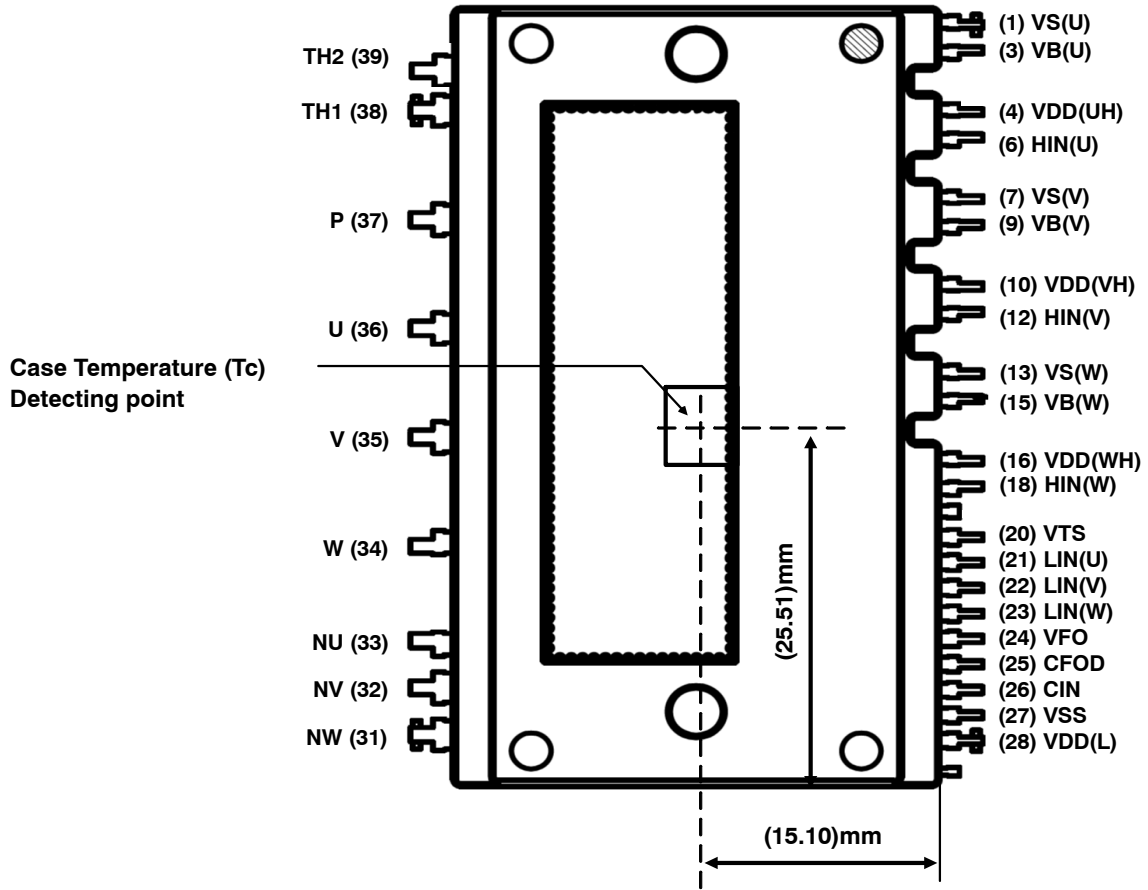

Figure 2. Pin Configuration – Top View
| Tc | Case Operation Temperature | See Figure 2 | –40 ~ 150 | °C |
3. For the measurement point of case temperature (Tc), please refer to Figure 2.